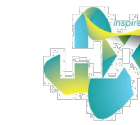

Fig 5 Sediment is removed with a vector hose (First Defense model FD-4, shown).
4. Remove oil and floatables stored on the surface of the water with the vector hose (Fig 5) or with the skimmer or net (not pictured).
6. Once all floatables have been removed, drop the vector hose to the base of the sump. Vector out the sediment and gross debris off the sump floor (Fig 5).